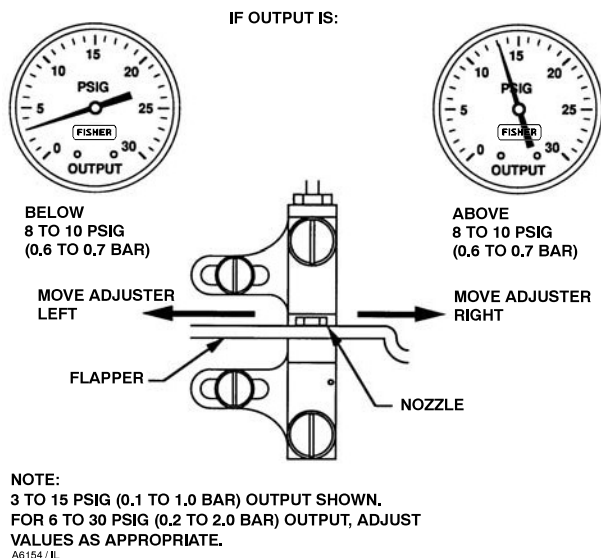

Figure 6. Direct-Acting Controller Span Adjustment—Proportional-Only Controllers
9. If the output is not between 0.6 and 0.7 bar (8 and 10 psig), adjust the controller span by loosening the two adjusting screws (key 43) and moving the calibration adjuster (key 41) a small distance as indicated in figure 6.